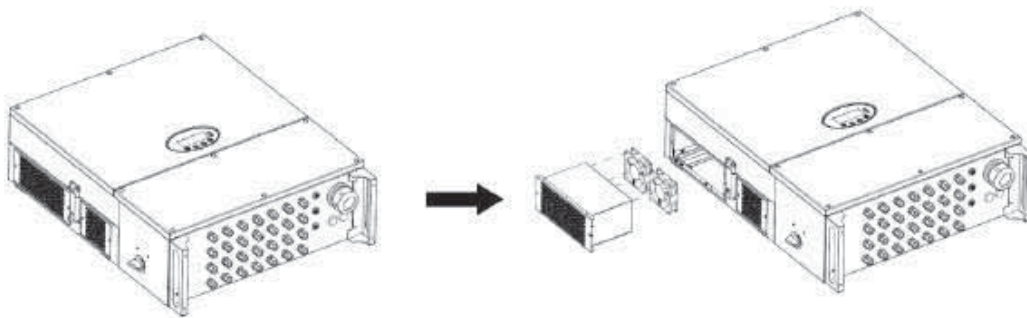

Fig 5.2 Disassemble the fan box
- (1) Disconnect AC breaker;
- (2) Turn the DC switch to “OFF” position;
- (3) Wait for at least 10 minutes;
- (4) Disconnect all the electrical wirings at the bottom of the inverter;
- (5) Lift up the inverter with the help of others and take the inverter off the wall.
- (6) Place the inverter on the operation platform;
- (7) Disassemble the fan box as shown in fig 5.2.